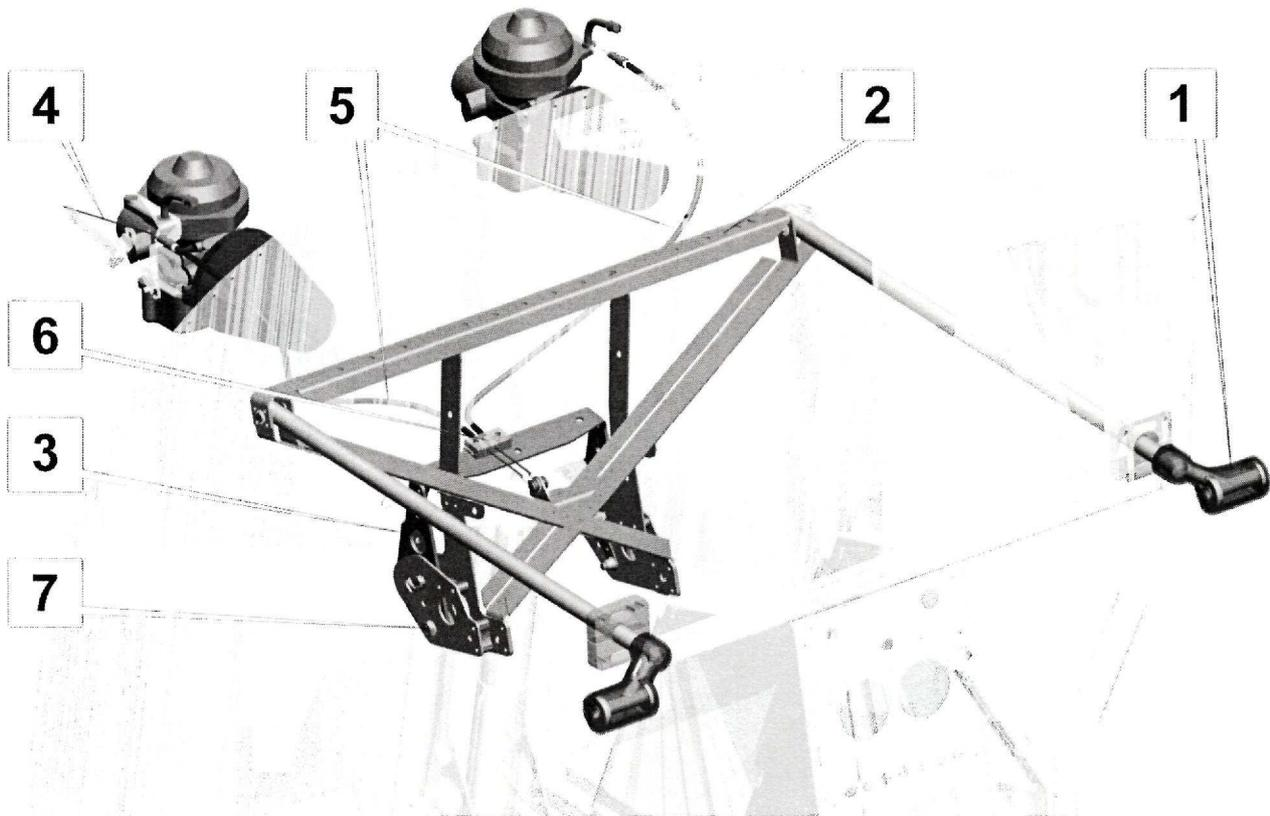

Fig. 9 Engine RPM controls
The engine RPM control (**Fig. 9**) is achieved using the right and left throttle levers (1) connected with the control column (2) based on the bracket (3) and throttle control cables (4) to the right and left carburetors. The cables are passed through the flexible sheaths — the right and the left (5) one. The throttle lever friction force can be adjusted on the ground by tightening the bolt (7).